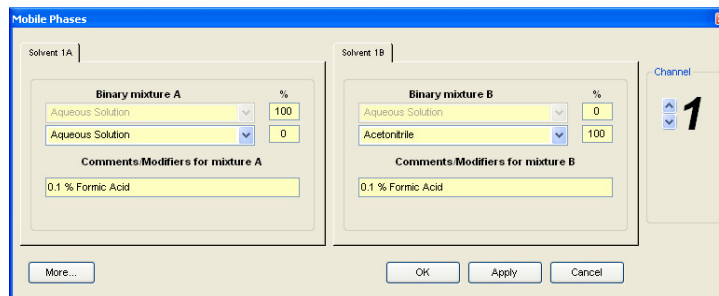

Figure 3-2. Mobile Phases Window
step 5 Select **System > Mobile Phases** from the main window of the control software to present the Mobile Phases dialog box (Figure 3-2).